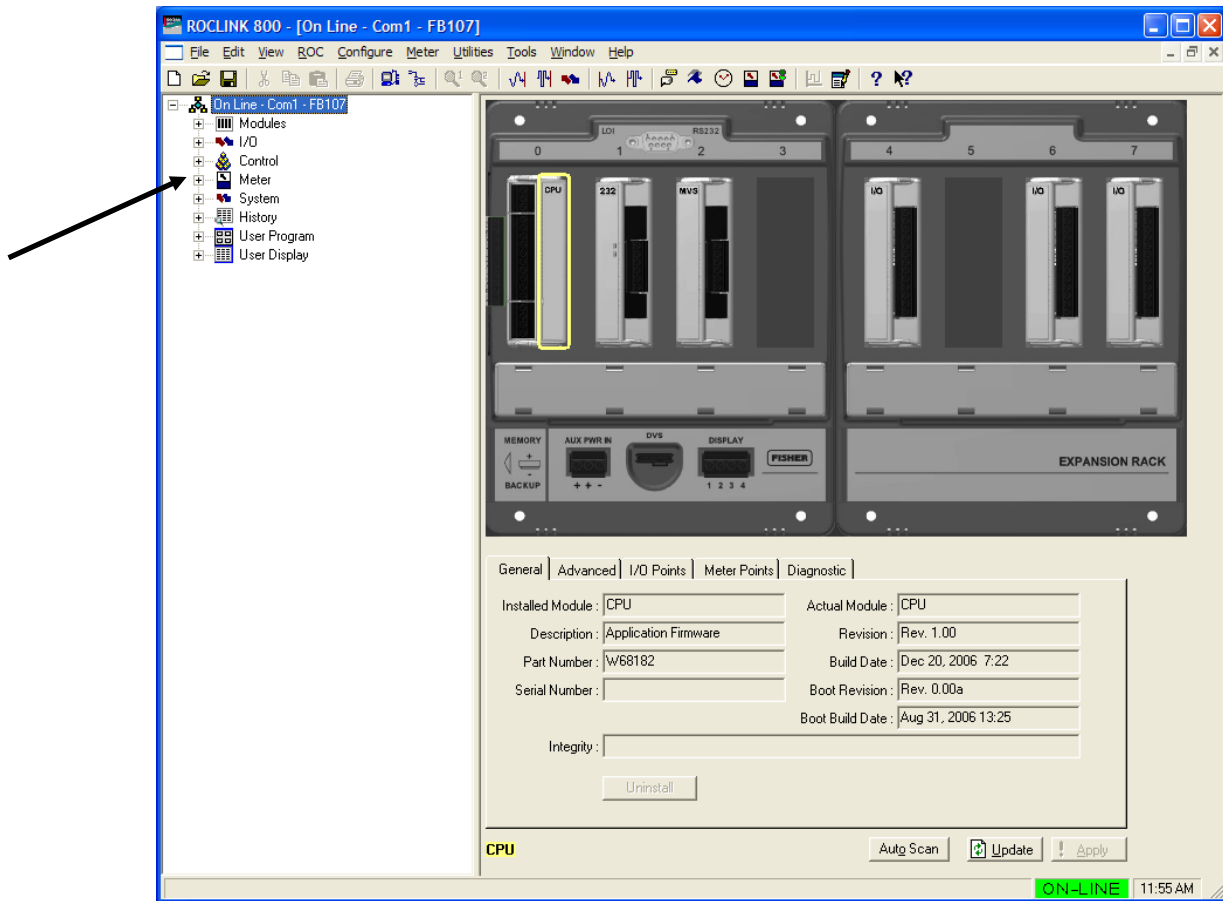

Figure 2-2. Configuration Tree
**Note:** Once you connect to a device, ROCLINK 800 replaces the Device Directory screen with a device-specific configuration tree screen (see Figure 2-2).